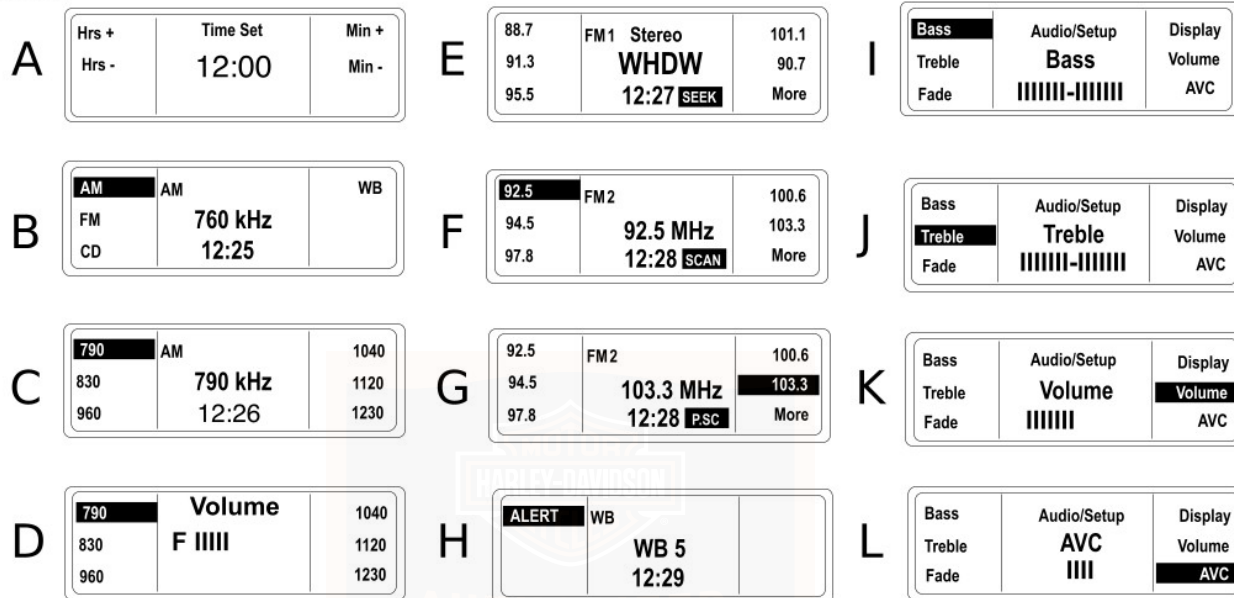

Figure 33. LCD Display Examples
See A in Figure 33. To increase the hours in the display press the Hrs+ soft key. To decrease hours press the Hrs- soft key. When the hour is correct, release the soft key.
See B in Figure 33. The LCD highlights the selected band.
See D in Figure 33. At any time the receiver is playing, the volume can be adjusted by pressing the **AUDIO** switch up (+) to increase volume or down (-) to decrease volume.
See E in Figure 33. Normally, the Advanced Audio System plays FM signals in stereo. The LCD will indicate **STEREO**.
See H in Figure 33. Broadcast by the National Oceanic and Atmospheric Administration (NOAA) National Weather Band (WB) frequencies are available in North America only.
See E in Figure 33. In SEEK, the radio tunes in to the next strong station.
See F in Figure 33. Press and hold the **MODE SEL** switch **UP** or **DN** approximately 5 seconds to scan the band for strong station signals. Each strong station remains tuned in for 8
See C in Figure 33. AM can store 6 preset frequencies.
*See E and F in Figure 33. Separate FM1 and FM2 bands allow the rider to store 2 sets of 5 preset FM frequencies (10 total). Use the **More** soft key to toggle between FM1 and FM2. The full range of FM frequencies can be selected in either FM1 or FM2.*
See G in Figure 33. In preset SCAN, the radio continuously tunes from one preset station to the next until the preset SCAN is cancelled. A P.SC icon will display while preset SCAN is active.
See D in Figure 33. Volume is adjusted with the **AUDIO** switch on the left hand grip. Using left thumb, press the **AUDIO** switch up (+) to raise the volume or down (-) to lower the volume. The LCD displays the word Volume and a bar graph that changes length with the volume.
See K in Figure 33. Volume can also be adjusted in Audio/Setup.
BASS: See I in Figure 33. Press **AUDIO** to display Bass Audio/Setup. Using the left thumb, press the **AUDIO** switch up (+) to increase the bass range or down (-) to lower the bass range. The LCD displays the word Bass and a dashed line that changes length with the setting. The short center dash indicates a middle setting.
TREBLE: See J in Figure 33. From Bass Audio/Setup, press and release **AUDIO** to sequence to Treble. Using the left thumb, press the **AUDIO** switch up (+) to increase the treble range or down (-) to lower the treble range.
See J in Figure 33. The LCD displays the word Treble and a bar graph that changes length with the setting. The short center dash indicates a middle setting.
See L in Figure 33. Automatic Volume Control (AVC) automatically adjusts volume level to compensate for ambient noise associated with motorcycle speed.